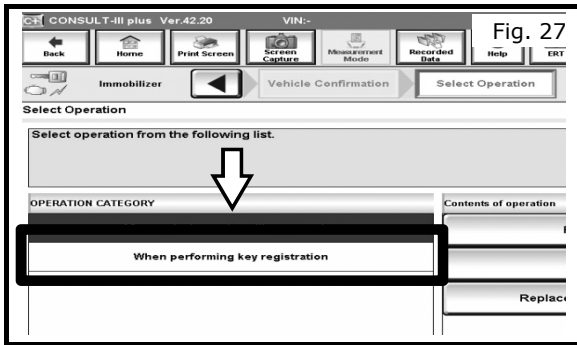

Fig. 27
- a) Once the system call is complete, you will enter the Select Operation screen will as shown in Fig. 27.
- b) Under OPERATION CATEGORY menu click "When performing key registration" as shown in Fig. 27.